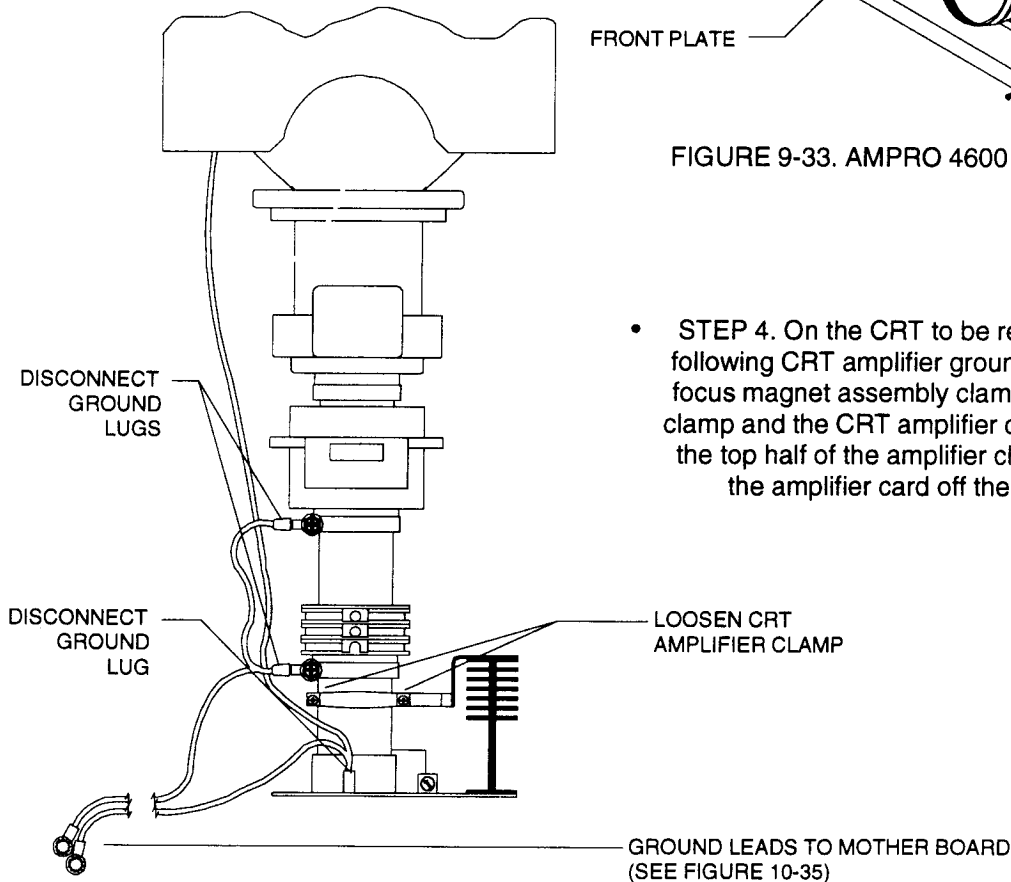

FIGURE 9-34. CRT Amplifier - top view.
- STEP 4. On the CRT to be replaced, disconnect the following CRT amplifier ground connections from the focus magnet assembly clamp, astigmatator assembly clamp and the CRT amplifier card. Loosen or remove the top half of the amplifier clamp and carefully slide the amplifier card off the CRT. See Figure 9-34.